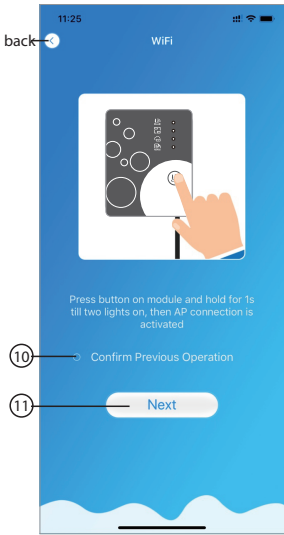
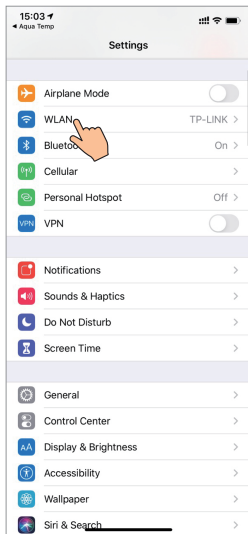
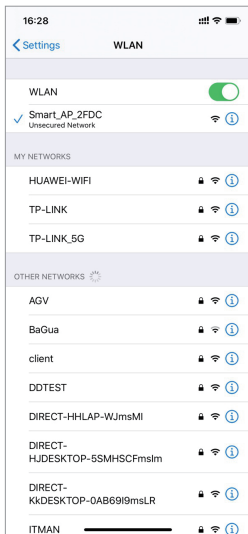

Fig.7 WIFI Module On interface
Fig.10 Setting interface
Fig.11 WIFI setting interface
1. Follow the instructions on the page (Fig.7), press button on module and hold for 1s till two lights on, then AP connection is activated, click ⑩ to confirm, click ⑪ to turn the page;
2. Click ⑫ to enter the WIFI password for the current connection, click ⑬ to confirm;
3. Jump to system settings, connect specified WIFI, click ⑭ to select the "Smart_AP_xxx", click ⑮ to popup window(Fig.10), follow the instruction and then jump to WIFI setting interface(Fig.11);